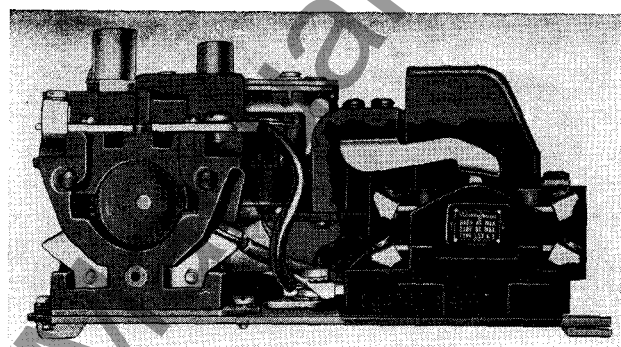
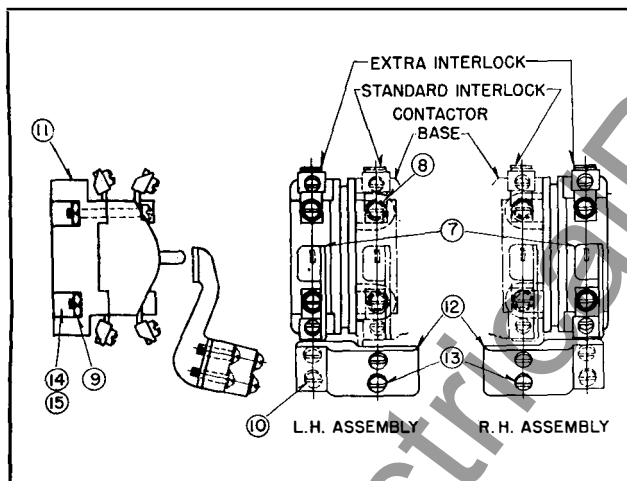

FIG. 1 Standard Universal Interlock
FIG. 2 Extra Interlock
2. Insert into base slot the respective rubber nut retainer items (14) or (15) complete with elastic stop nut (9).
3. Mount interlock unit on the contactor base as shown in Fig. 1. Interlock mounting screws need not be tightened excessively, as Elastic Stop Nuts provide positive locking.
4. Attach operating arm (7) to contactor cross bar with screws (10) supplied with the interlock.
**Extra Interlocks 1.** Loosen mounting screws (8) sufficient to withdraw, and discard nut (9) and retainer (14) or (15) from standard interlock.
2. Slip Moldarta sub-base (11), on which interlock unit is mounted into slots provided in contactor base and secure with screws (8) as shown in Fig. 2.
3. Remove screw assembly (13), Fig. 2, and mount operating arm supplied with interlock to Moldarta cross bar extension (12), Fig. 2.
4. Attach cross bar extension (12) to the contactor cross bar with screws and lockwashers (13) furnished with the interlock as shown in Fig. 2.